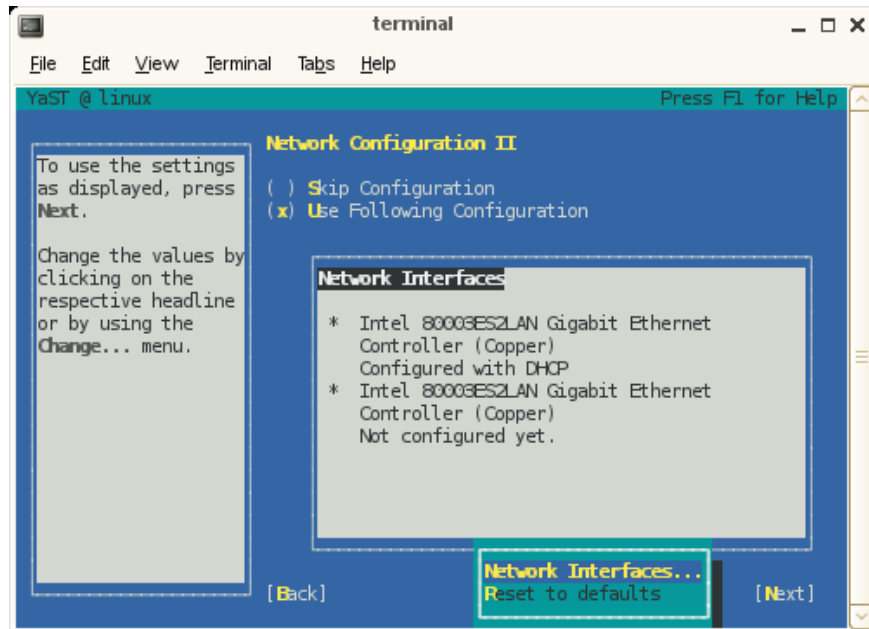

Figure 2-4 Network Card Configuration Interfaces Screen
8. The **Network Configuration II** screen appears. Select **Change** and a small window pops up that lets you choose **Network Interfaces...** or "**Reset to Defaults**" (as shown in Figure 2-4 on page 40). Choose **Network Interfaces**. Click **Next** to continue.